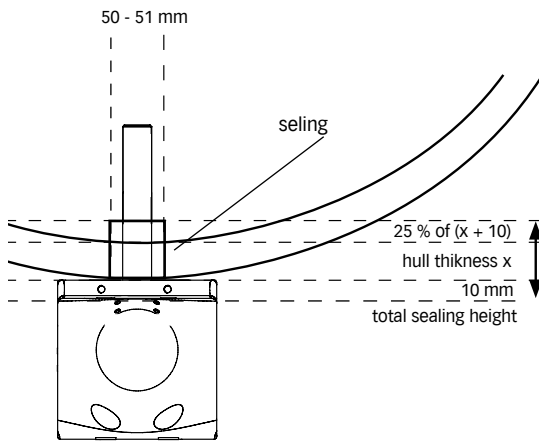
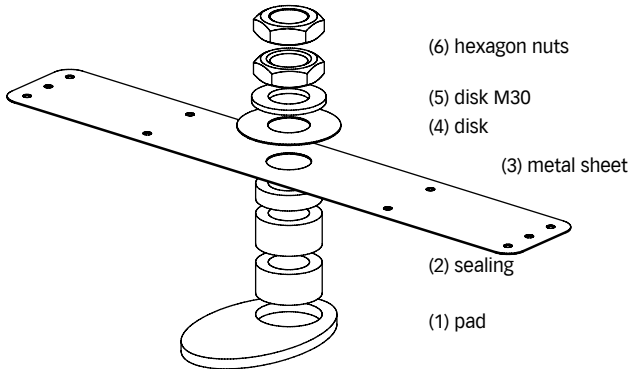

Fig. 10: drilling and total sealing height
Fig. 12: main connection GRP
Bolt down the thruster via the main connection, thereby paying attention to the right number of seals (fig. 10). The sequence corresponds to the one in fig. 12, whereby, depending on the hull thickness, several seals (2) must be used. It is to be considered that those seals are compressed by about 25 % when tightening the bolts (fig. 10).
Bolt down the thruster via the main connection, thereby paying attention to the right number of seals (fig. 10) The sequence corresponds to the one in fig. 20, whereby, depending on the hull thickness, several seals (1) must be used. It is to be considered that those seals are compressed by about 25 % when tightening the bolts (fig. 10).